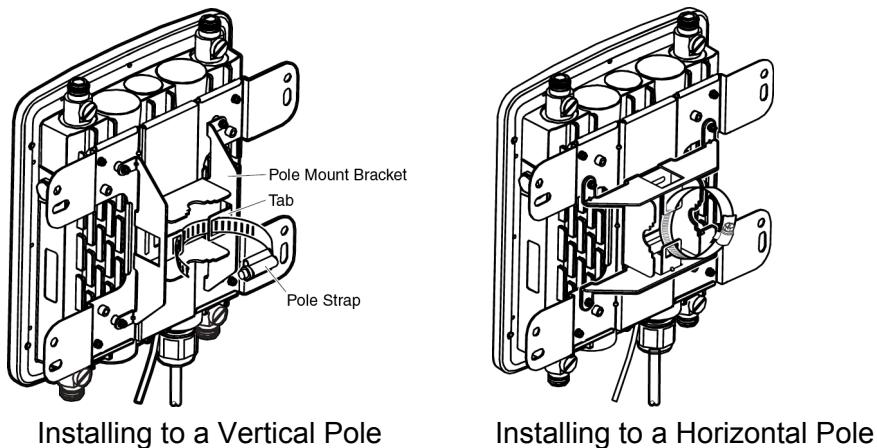

Figure 20. Attaching the O-Ring Clamp to the Pole-Mount Bracket
- Attach the O-ring clamp to the pole-mount bracket. See Figure 20.